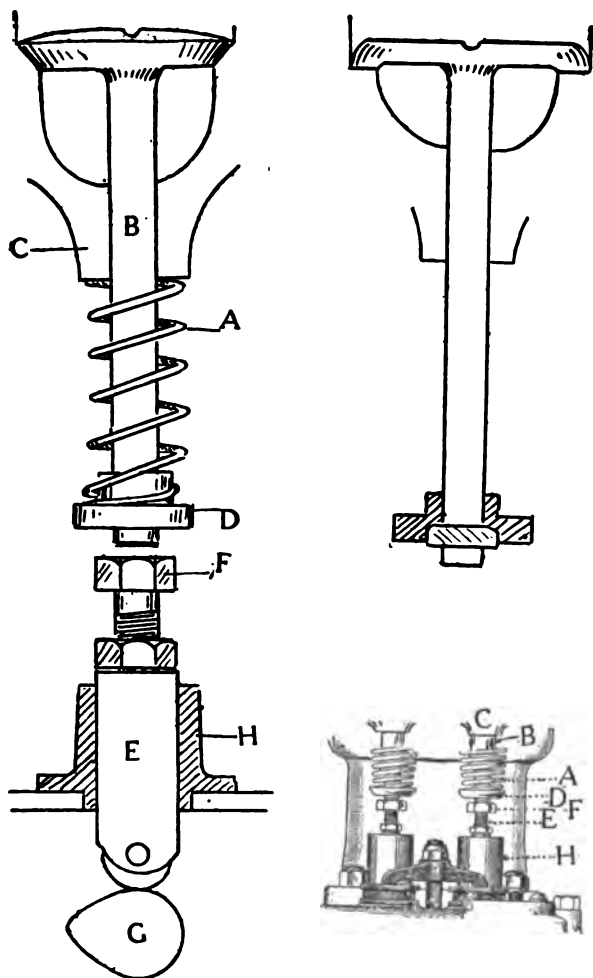

Fig. 28
the burned gas to escape. These are known respectively as the *intake-valve* and *exhaust-valve*. There are many forms of valves in use, but the commonest form, known as the *poppet-valve*, is the simplest; Fig. 28 shows two forms of this type of valve, one with a beveled lower surface resting
The valves are held in position by a stiff spring (Fig. 28, A) placed around the valve-stem (B), and bearing on the valve-stem guide (C) at one end and upon the valve-foot (D) at the other end. To prevent the valve from moving side-wise or from seating unevenly a guide (C) is provided in which the stem slides up and down. The valves are lifted from their seats to admit a charge of gas or to let the burned gas escape by means of rods known as *push-rods* (Fig. 28, E). These push-rods carry an adjustable nut or pin, called a *tappet*, at their upper end (F), and bear upon the cam (G) at the other end and slide up and down in bronze bushings or guides (H). As each valve must open at a certain point in relation to the position and motion of the piston and must remain open for *one stroke*, or *one-half* of a revolution, and must remain closed for the next *three strokes*, or *one and one-half* revolutions of the shaft, the cams must be operated at one-half the engine speed; in other words, the shaft carrying the cams makes but one revolution while the main crank-shaft is making two complete turns. This is accomplished by using gears on the shaft and cam-shaft and having the cam-shaft gear just twice the size of that on the crank-shaft. The gears used may be plain *spur-gears* (Fig. 29), *skew-toothed gears* (Fig. 30), *worm-gears* (Fig. 31), or sprockets and chains (Fig. 32). Some motors have the cam-gear driven direct from the main gear (Fig. 33), while others use an *idler-gear* between the two (Fig. 34). In order to have the valves open and close at just the right point in relation to the piston the cam-shaft and cam-gear must be set in a certain definite position in relation to the shaft-gear. This is known as *valve-timing*, and is a matter of very great importance. While the exact timing of the valves varies a little with